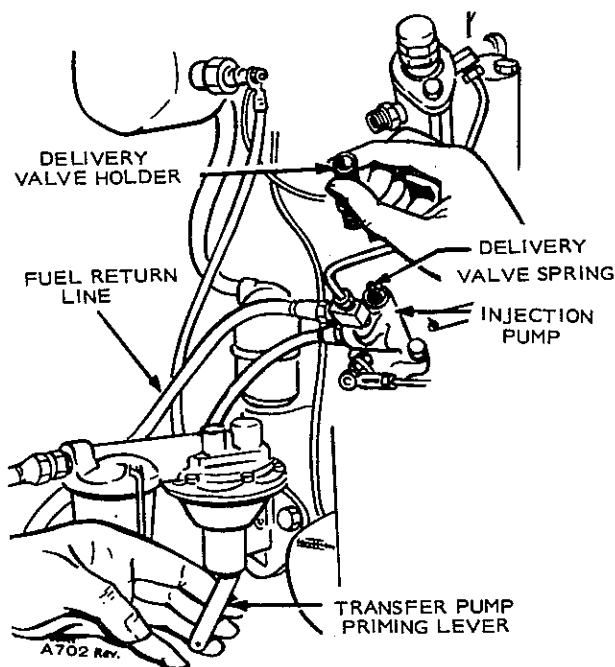

FIGURE 9-7. DELIVERY VALVE HOLDER AND SPRING
2. Loosen delivery valve holder to relieve pressure on spring, Figure 9-7.
3. Rotate flywheel to about 15 degrees before port closing (PC) point. Operate transfer pump hand primer lever and rotate flywheel slowly clockwise until all fuel stops coming out of pump outlet. This is port closing point.